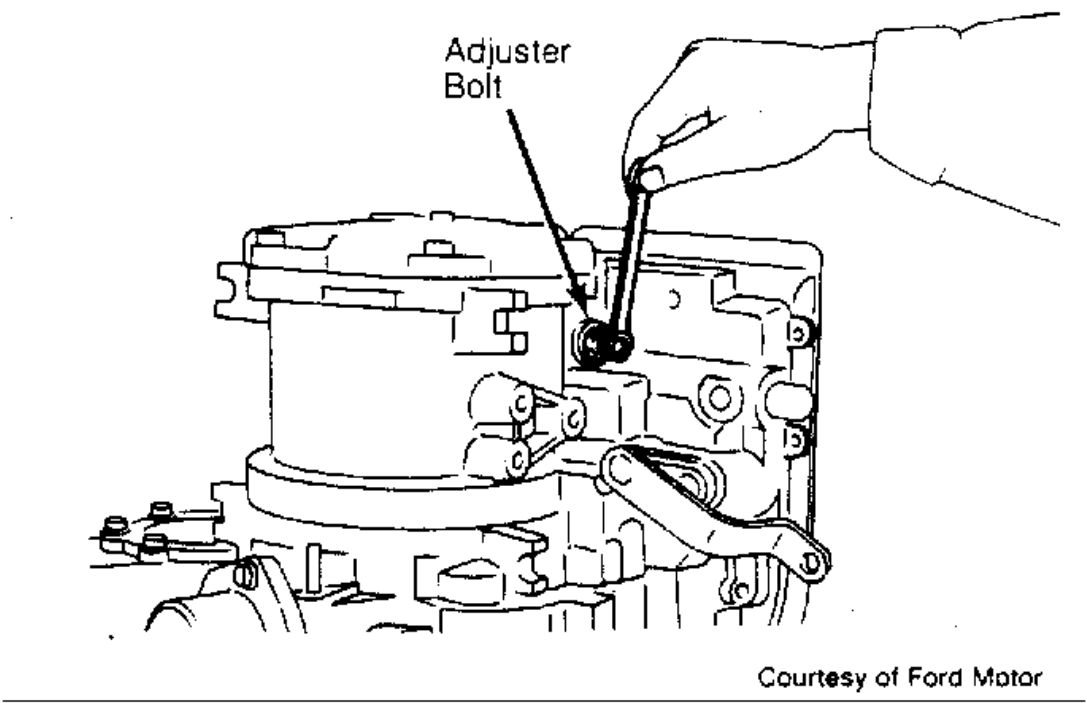

Fig. 3: Adjusting Intermediate Band
- 1. Loosen adjuster bolt lock nut. See Fig. 3 . Tighten adjuster bolt to 9-11 ft. lbs. (12-15 N.m). Back out adjuster bolt exacty 3 turns.